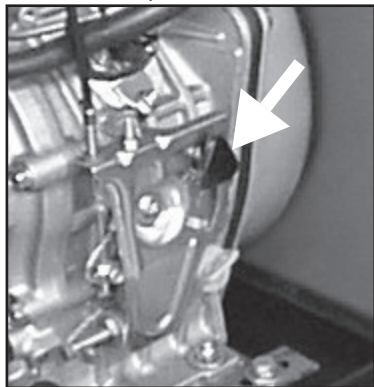

Fig.7
- 2) P3500 – P4500 – P6000 – WP180 (YANMAR engine) models: Position the accelerator handle on the engine (see fig. 7) back upwards. Wait until the engine is completely off. Turn the key to the "OFF" position.